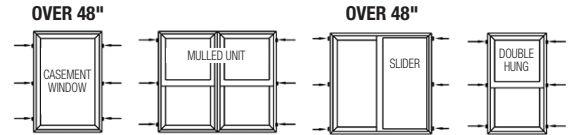

FIG. 13
- J) Check the unit for square using diagonal measurements. Shim window to ensure the unit is square. Casement units over 48" in height must have shims placed at the center to prevent bowing of jambs. **Note: Use flat shims.** (Fig. 13)
- K) **For double hung units: To ensure proper window operation and performance, it is critical to shim at the check rail to ensure the frame widths are equal at the top, center and bottom of the unit.** (Fig. 13)
- M) Make sure jambs, head and sills are straight. Additional shimming may be required. (Fig. 13)